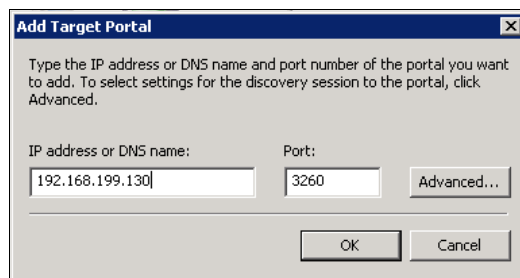

Figure 11-45 Add iSCSI portal to initiator
4. Click **Add Portal** under target portals to enter the IP address of the iSCSI portal associated with GbE port 0 on the iSCSI blade (IP: 192.168.199.130). The port number remains at the default value of 3260, and no advanced settings need to be configured. See Figure 11-45.